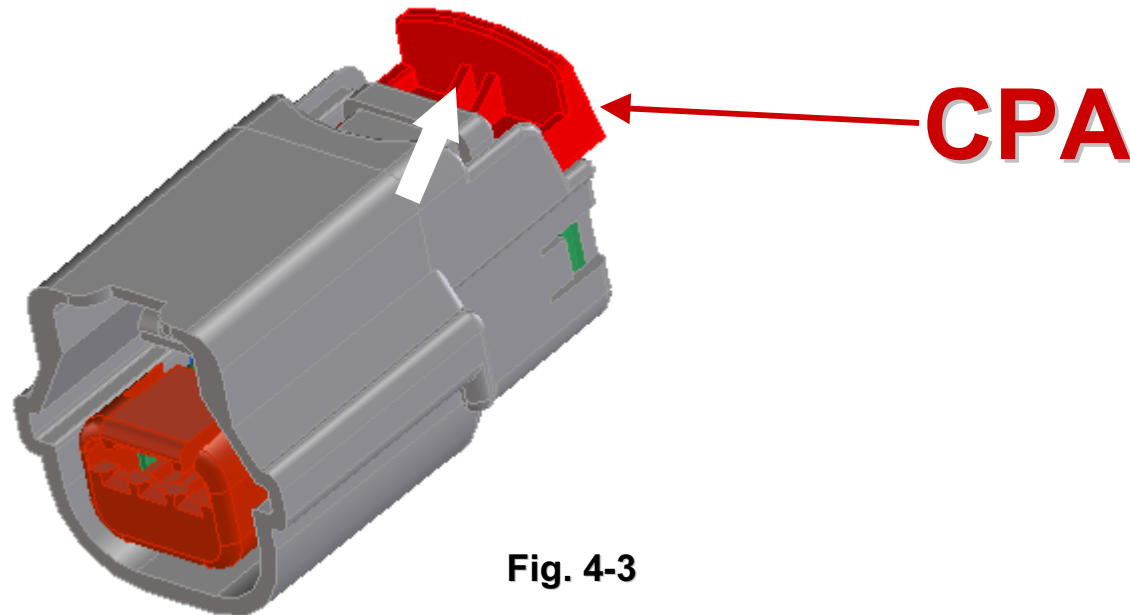

Fig. 4-3
- n With the connector mated the CPA can now be engaged. Push the CPA toward the mating surface until it clicks into its locked position (Fig. 4-3).